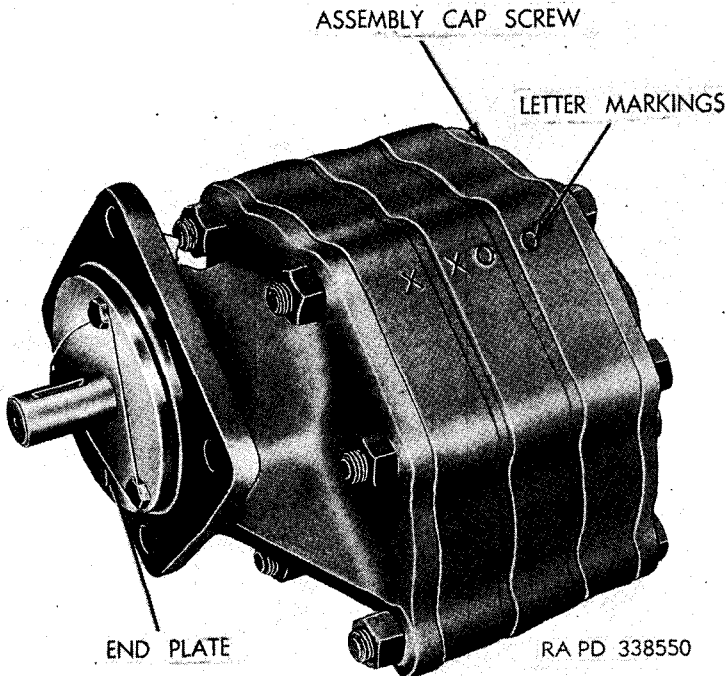
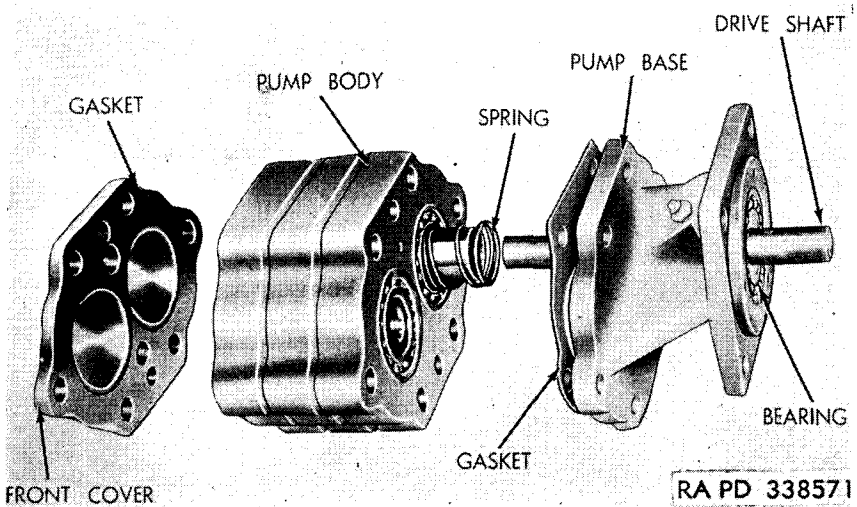

Figure 63. Hydraulic pump—assembled.
Figure 65. Pump base and front cover separated from pump body.
a. DESCRIPTION. The hydraulic pump (figs. 63 and 64) is composed of two external spur gears mounted in bearings in a five-piece pump body consisting of the gear housing, two wear plates, and two bearing housings. One of the gears is driven by a drive shaft which is splined to the inside of the gear shaft and keyed to the drive pulley. This shaft is pressed in a bearing which seats in the pump base. The oil enters the gear housing through an intake port and is discharged through an exhaust port by gear action.
b. REMOVE END PLATE. Remove locking wire and three ¼-inch cap screws securing end plate to shaft end (rear) of pump assembly. Remove end plate (fig. 63).
c. **MARK PARTS.** Inspect the bearing housings and gear housing to see that they are properly marked (fig. 63), in order to facilitate their assembly in their correct position. If letter markings are not clear, punch-mark parts.
d. **REMOVE PUMP BASE.** Remove the six pump assembly cap screws (fig. 63) and remove pump base, shaft, and bearing assembly from pump assembly (fig. 65).
e. REMOVE DRIVE SHAFT AND BEARING ASSEMBLY. Remove pump drive shaft and end bearing assembly from pump base (fig. 65). Press shaft out of bearing if inspection finds either bearing or shaft defective.
g. REMOVE PUMP BODY. Remove pump body and bearing assembly from front end cover (fig. 65).
f. **INSTALL FRONT BEARING HOUSING.** Place the front bearing housing over the bearings with the letter matching a similar letter on the gear housing (fig. 63). This housing should also be a light push-fit with the hands.